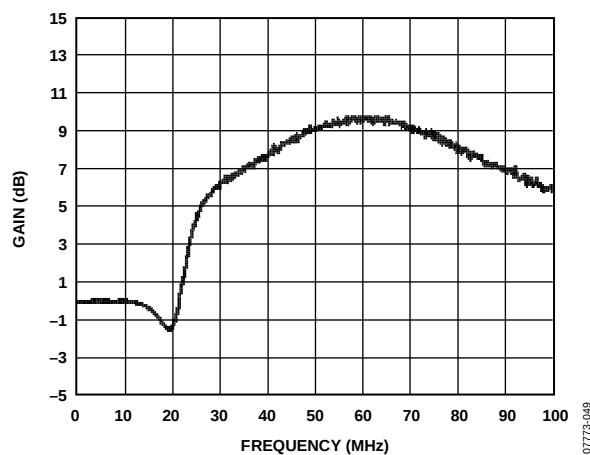
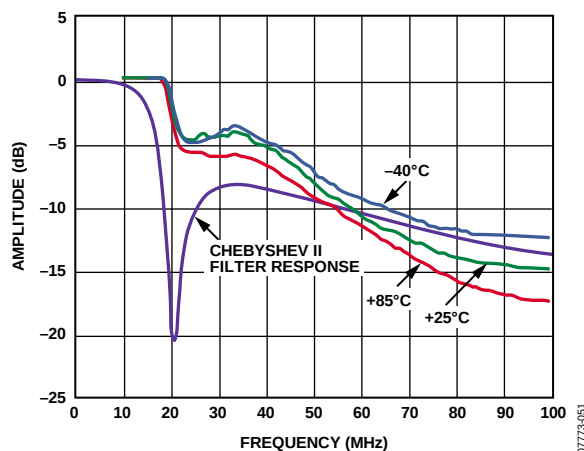
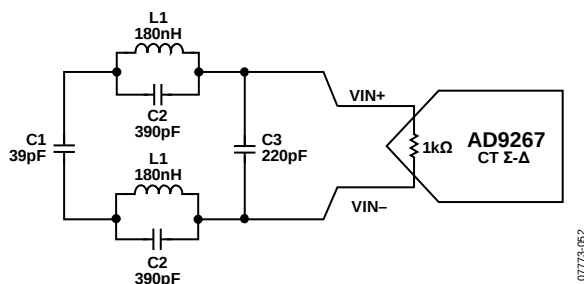

Figure 43. STF
Figure 44. Maximum Input Level for 3 dB Noise Degradation
Figure 45. Third-Order Low-Pass Chebyshev II Filter
An overrange condition can be triggered by large in-band signals that exceed the full-scale range of the Σ - Δ modulator, or it can be triggered by out-of-band signals gained by the transfer characteristics of the modulator. Figure 43 shows the signal transfer function of the Σ - Δ modulator. The modulator output possesses out-of-band gain above 10 MHz. As a result, the input signal may exceed full scale for input frequencies beyond 10 MHz and the ADC may be in an overrange state. The OR $\pm$ x pins serve as indicators for the overrange condition.
Figure 43 shows the normalized STF of the AD9267 CT Σ - Δ converter. The figure shows out-of-band peaking beyond the band edge of the ADC. Within the 10 MHz band of interest, the STF is maximally flat with less than 0.1 dB of gain. Maximum peaking occurs at 60 MHz with 10 dB of gain. To put this into perspective, for a fixed input power, a 5 MHz in-band-signal appears at -5 dBFS, a 25 MHz tone appears at -2 dBFS and 60 MHz tone at +5 dBFS. Because the maximum input to the ADC is -2 dBFS, large out-of-band signals can quickly saturate the system. This implies that under these conditions, the digital outputs of the ADC no longer accurately represents the input. Refer to the Overrange (OR) Condition section for details on overrange detection and recovery.
Figure 43 shows the gain profile of the AD9267 and this can be interpreted as the level in which the signal power should be scaled back to prevent an overload condition. This is the ultimate trip point and before this point is reached, the in-band noise (IBN) slowly degrades. As a result, it is recommended that the low-pass filter be designed to match the profile of Figure 44, which shows the maximum input signal for a 3 dB degradation of in-band noise. The input signal is attenuated to allow only 3 dB of noise degradation over frequency.
The noise performance is normalized to a -2 dBFS in-band signal. The AD9267 STF and NTF are flat within the band of interest and should result in almost no change in input level and IBN. Beyond the bandwidth of the AD9267, out-of-band peaking adds gain to the system, therefore requiring the input power to be scaled back to prevent in-band noise degradation. The input power is scaled back to a point where only 3 dB of noise degradation is allowed, therefore resulting in Figure 44.
An example third-order low-pass Chebyshev II type filter is shown in Figure 45 and the corresponding magnitude vs. frequency response of the filter is shown in Figure 44.
In addition to matching the profile of Figure 44, group delay and channel matching are important filter design criteria. Low tolerance components are highly recommended for improved channel matching, which translates to minimal degradation in image rejection for quadrature systems.